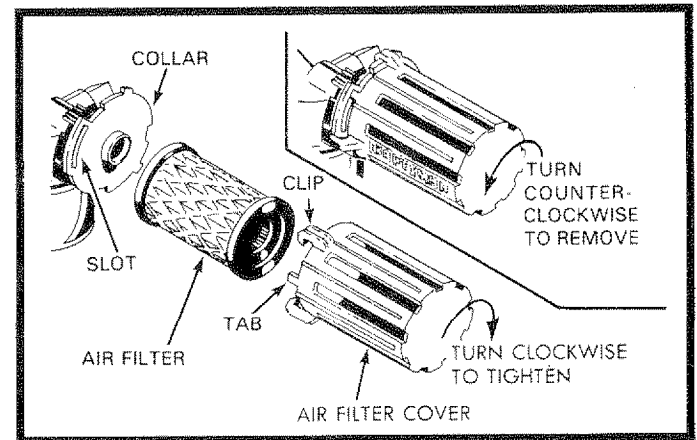

FIG. 12
- Remove the Air Filter Cover by turning counter-clockwise to the stop and pull away from Collar (See Fig. 12).
- Remove Filter from inside of Cover (See Fig. 12).
- Push in on Cover and turn clockwise to tighten (See Fig. 12).